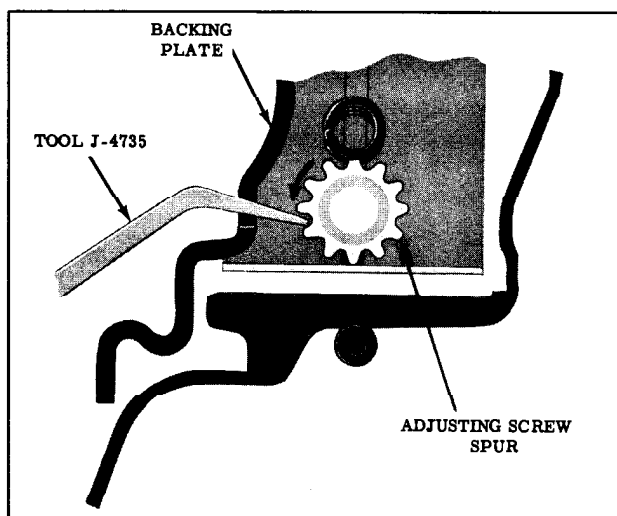

Fig. 7-1 Expanding Brake Shoes
3. Remove adjusting screw hole cover from backing plate. Expand brake shoes by turning adjusting screw using Tool J-4735 (Fig. 7-1) until heavy resistance is felt on brake drum while rotating wheel, then turn adjusting screw in opposite direction approximately sixteen notches.